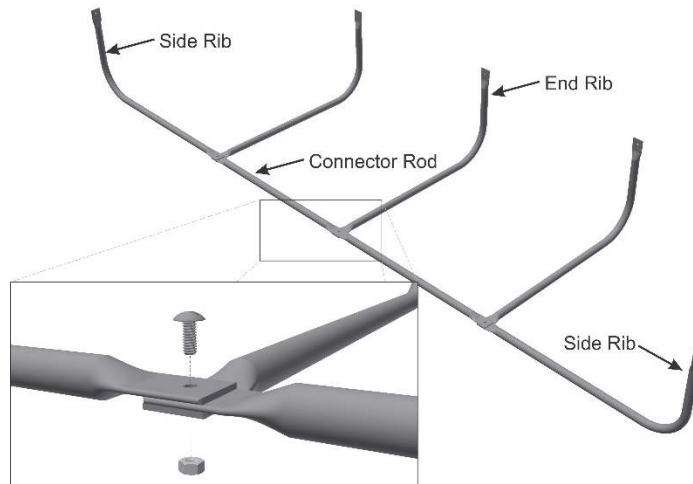

Figure 1 – [8x6 Frame]
1. *[8x6 Frame]* Take 5 rib sections and 2 2' connecting rods and attach them as shown in Figure 1. **Note: The connection point for the end ribs should be set under the side ribs and connecting rods.**